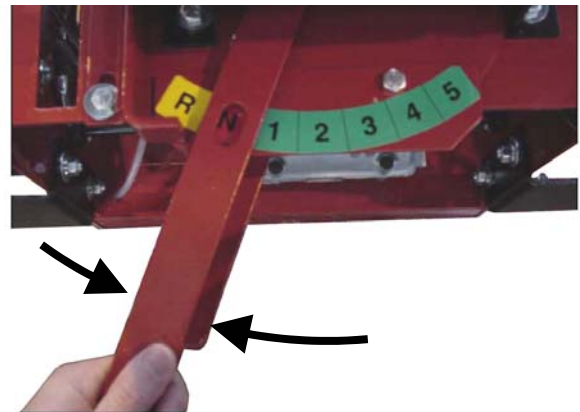

FIGURE 3.11
3. Move Transmission Shift Lever into **NEUTRAL (N)** position. See Figure 3.11.